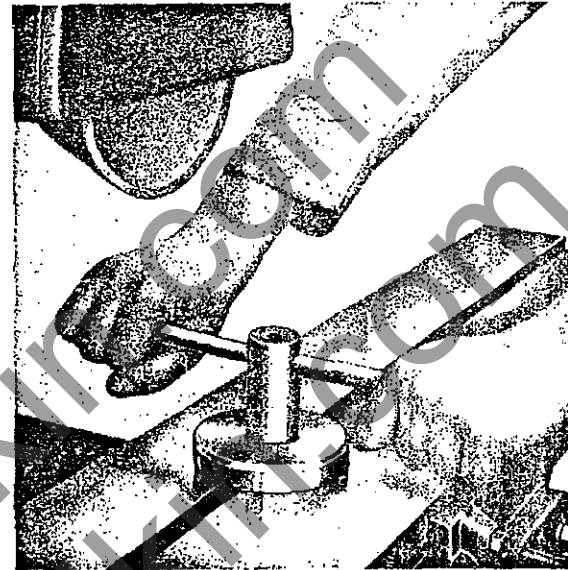
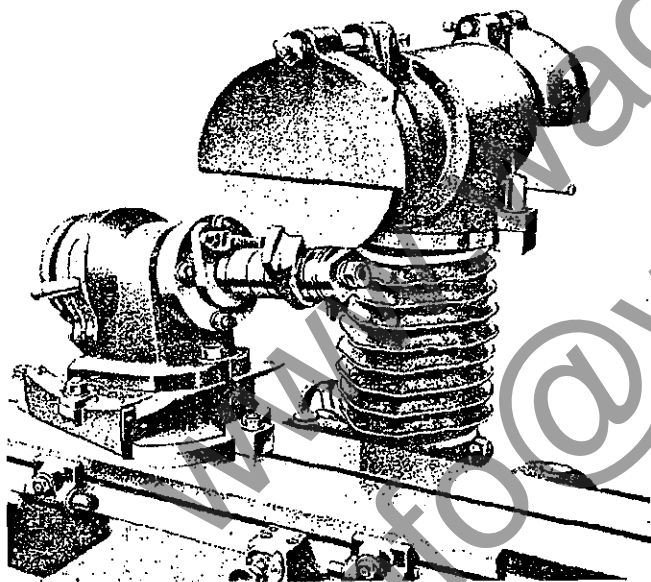
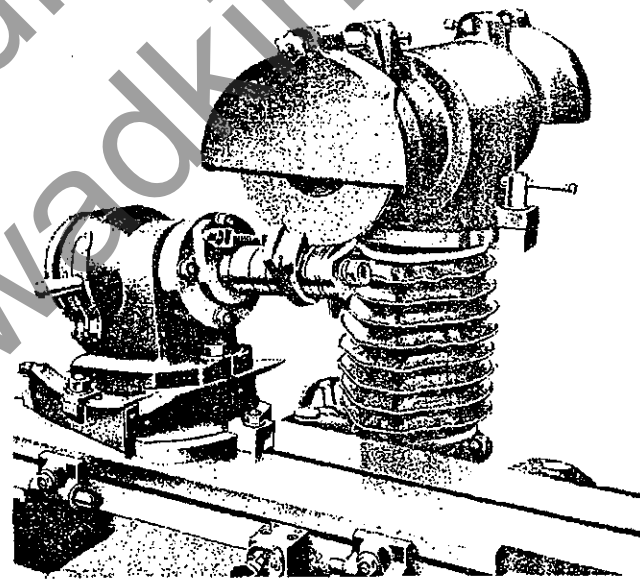

Fig. 29.
Fig. 50. Setting up for Grinding.
Fig. 51. After the initial setting the cutting edges are presented to the grinding wheel in turn, being located correctly by the dividing head.
To set the table up on the machine it is first necessary to fix the register on which the table swivels. This is locked in the position marked on the machine table by using the box spanner as shown in Fig. 29.
Sharpening is done by grinding off the front edge of the teeth. The tooth curve is shaped so that the correct profile is retained and all the cutting points keep on the same periphery after grinding. To achieve this the same amount of material must be ground off the front edge of each tooth. The cutting angle of this type of cutterhead is usually 30° and it is pointed out that this angle must not be altered, as this would give rise to differences in the tooth profile. The block, then, must be reground on the front edge of each tooth at the correct cutting angle. To maintain this angle the cutter must be fed into the wheel radially. This is affected by fitting an arbor with a radial feed attachment. By this means the original cutting angle and profile can be maintained. This type of arbor is shown in Fig. 50. To set the cutter a setting plate is used as this is more accurate than the narrow edge of the dished wheel.
- (1) From the grinding spindle carrying the dished wheel, remove the locknuts and washer which hold the wheel in position. Do not remove the wheel. Place on the spindle the setting plate and replace washer and nut.
- (2) Fix to the left-hand end of the machine table the register about which the swivelling base for the dividing head revolves. (Fig. 29).
- (3) The bore in the swivelling base should be placed over the register and the base held to the table by tee bolts in the table tee slot. Lock in position by clamp nuts.
- (4) Place the canting slide on the swivelling base and lock by hexagonal nuts.
- (5) The dividing head should now be placed on the canting slide and bolted in position.
- (6) Add complete arbor to the dividing head faceplate, keeping the radial feed screw at the top.
- (7) Place cutter on the arbor and position by loose collars. Screw on nut "A" finger tight.
- (8) Release clamp nuts on swivelling base and canting slide, traverse the wheelhead and table until the cutter face lies flat on the setting plate. (Fig. 50).
- (9) Carefully lock the canting slide, swivelling slide and nut "A". Check that the cutter has not moved out of alignment.
- (10) Remove setting plate and relock wheel.
- (11) Set dividing head index for number of faces to be ground.
- (12) Traverse wheelhead and table until wheel just touches cutter (Fig. 51), lock table cross slide and traverse table until wheel is clear of cutter. Apply radial feed by rotating screw "C" one division in a clockwise direction. Lock-nuts "B" do not require moving.
- (13) Take an initial cut on one knife, then index block round until all the knives have been ground. Apply more radial feed and proceed in a similar manner until block is satisfactorily ground.